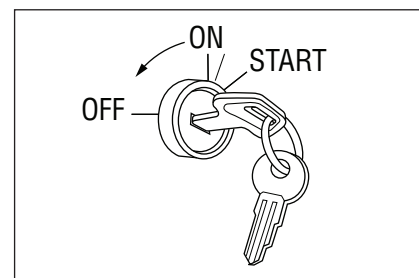

Figure 5
7. Turn key on for 10 seconds, then off for 30 seconds. Then start engine (Figure 5)